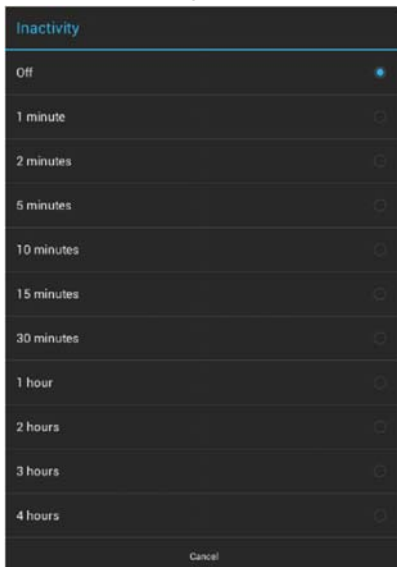

FIG. 32 Inactivity window
1. In the G5 Settings page, press Inactivity to open the Inactivity window (FIG. 32):